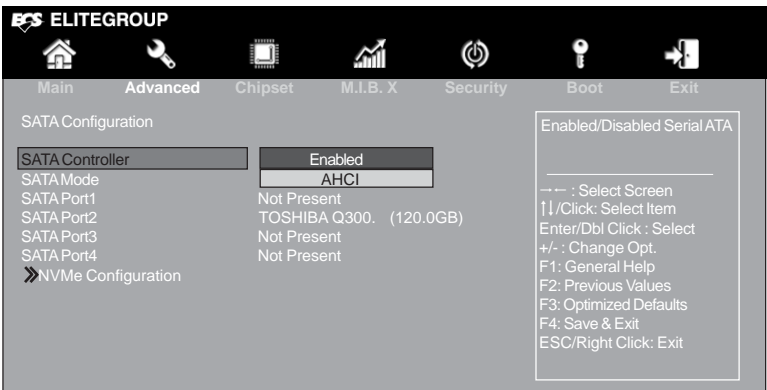

Figure 1.2 SATA Configuration Screen
2. Use the arrow keys to select Devices menu (see Figure 1.2), then select SATA Configuration and press Enter. Globally set SATA Configuration to RAID.